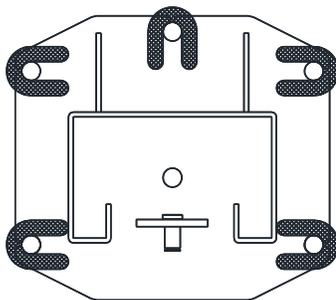

Fig. 3 – Column Shimming
- 8) Shim both columns to plumb using the shims provided as shown in **Fig. 3**. DO NOT shim more than 1/2" at any given point. Use a level no less than 24" in length to plumb columns.
- 14) Check idler column shimming. Use additional shims (**see Fig 3**) to remove any gaps that may have been created while installing overhead beam. Tighten anchor bolts and re-check column for plumb. Torque to 150 foot-pounds.